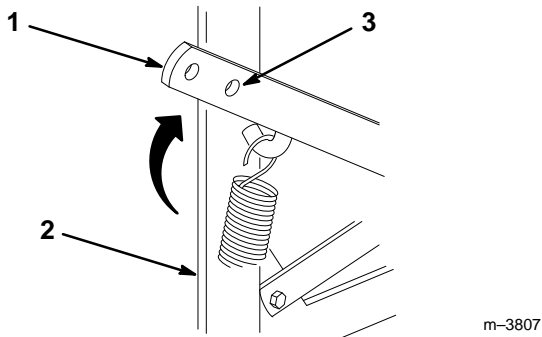

Figure 8
17. Push up and hold the spring loaded idler arm, behind blower, to relax pressure on blower belt (Fig. 8).
18. If holes do not align, mark the idler arm hole location onto the frame member. Center punch and drill a 13/32" (11 mm) hole for the clevis pin (Fig. 8).